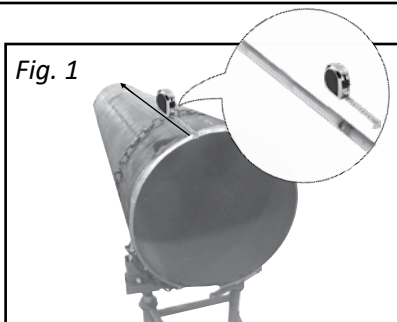

Fig. 1
1. To find appropriate length of reach rod (*F*), measure pipe joint to be welded. (*Fig. 1*)